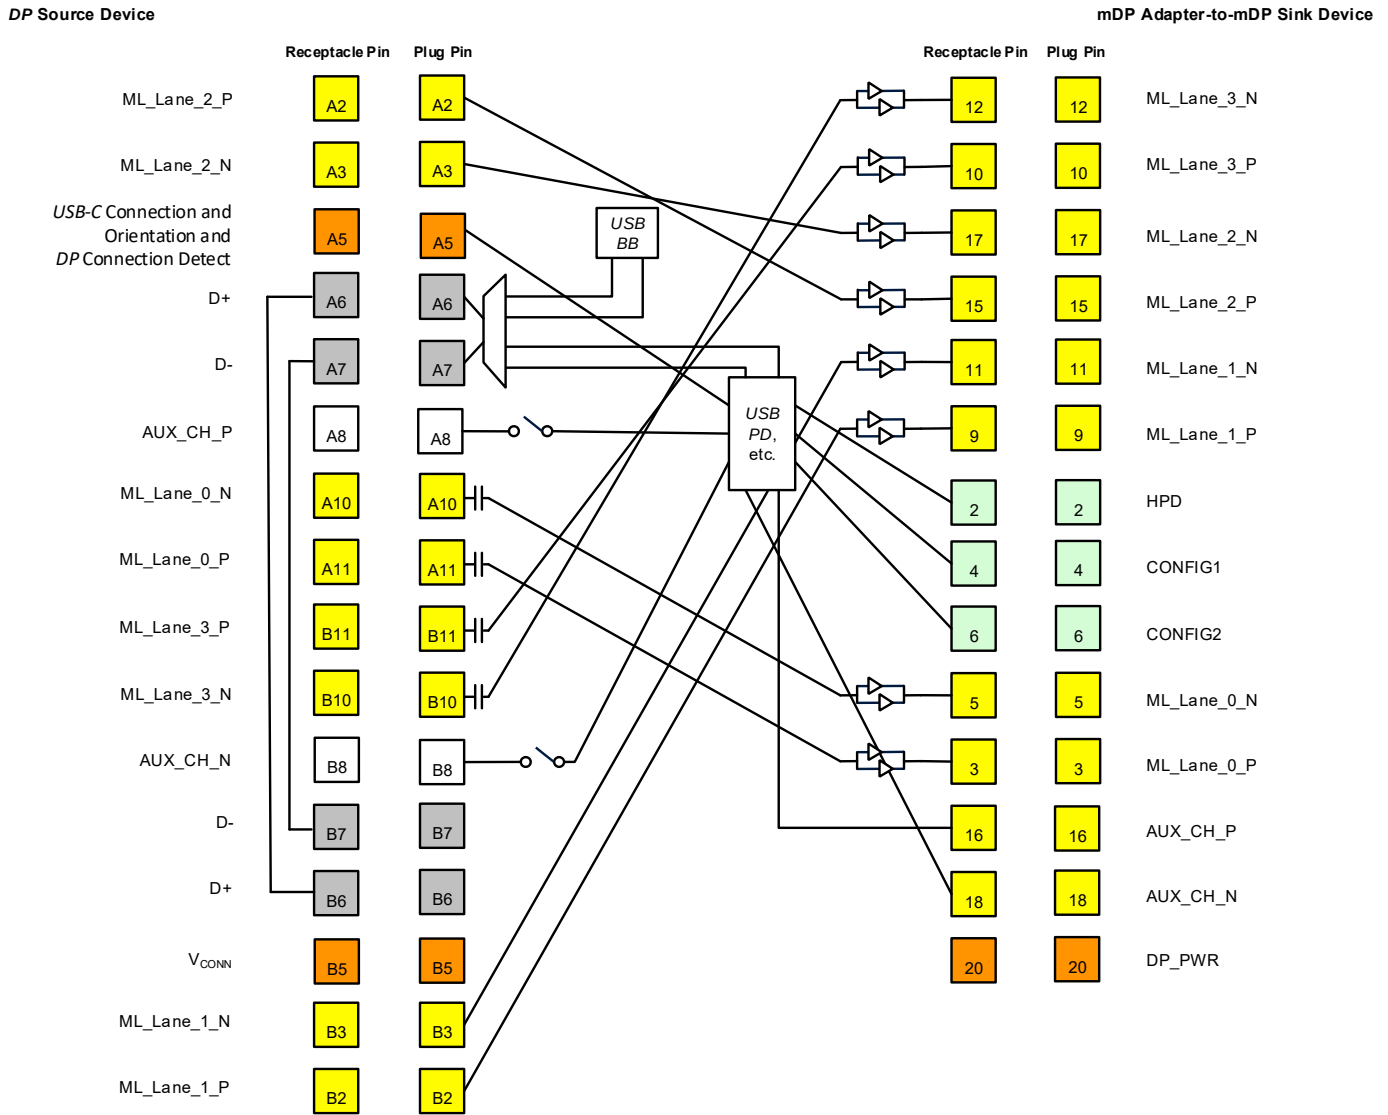

Figure 4-32: Scenario 5a mDP Adapter Wiring – Normal Plug Orientation
- Figure 4-32 illustrates this use for an mDP receptacle when the *USB-C* plug is inserted in normal orientation